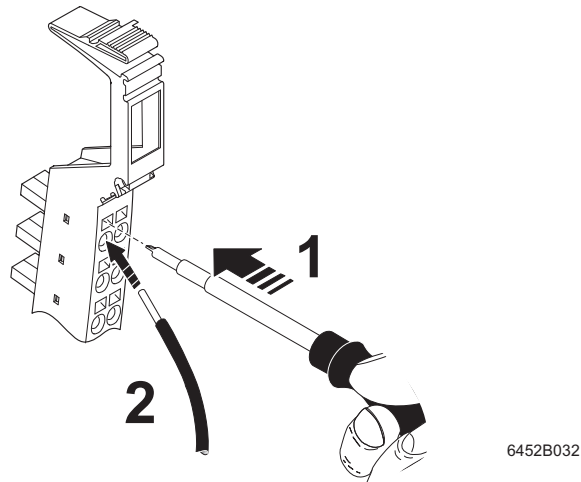

Figure 4-6 Connecting unshielded cables
- Push a screwdriver into the slot of the appropriate terminal point (Figure 4-6, detail 1), so that you can insert the wire into the spring opening. Phoenix Contact recommends the SZF 1 - 0.6X3.5 screwdriver (Order No. 1204517; see Phoenix Contact "CLIPLINE" catalog).
- Insert the wire (Figure 4-6, detail 2). Remove the screwdriver from the opening. This clamps the wire.